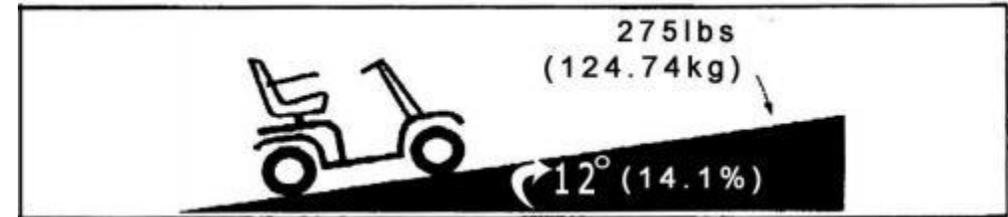

Figure 1. Maximum Recommended Incline Angel
**WARNING!** Even though your Travel Scooter is capable of climbing slopes greater than those illustrated in Figure 1 do not, under any circumstances, Exceed the incline guidelines or any other specifications presented in this manual. Doing so could cause instability in your Travel Scooter.
Handicap public access ramps are not subject to government regulation in all countries, and therefore do not necessarily share the same standard percent of slope. Other inclines may be natural or, if man-made, not designed specifically for Travel Scooters. Figure 1 illustrates your Travel Scooter's stability and its ability to climb grades under various weight loads and under controlled testing conditions. These tests were conducted with the Travel Scooter's seat in the highest position And adjusted rearward on the seat base to its farthest rearward position. Use this Information as a guideline. Your Travel Scooter's ability to travel up inclines is
**WARNING!** Any attempt to climb or descend a slope steeper than what is shown in figure1 may put your Travel Scooter in an